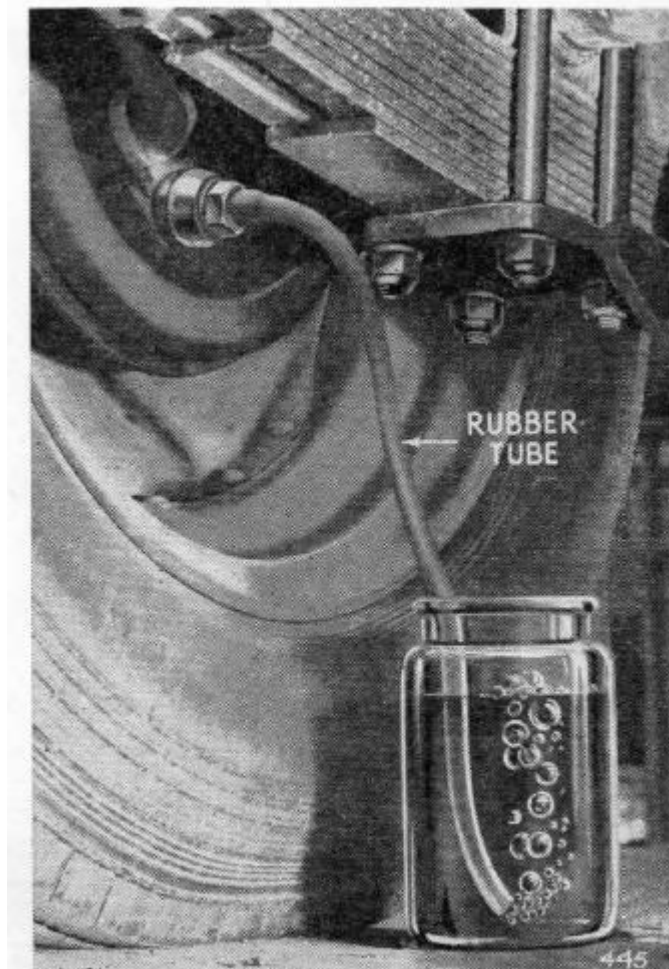

Fig. 34.
2. Wipe clean the bleed nipple of the brake concerned and fit a piece of rubber tube over it, allowing the tube to hang in a clean container partially filled with fluid, so that the end of the pipe is below the level of the fluid (see Fig. 34).